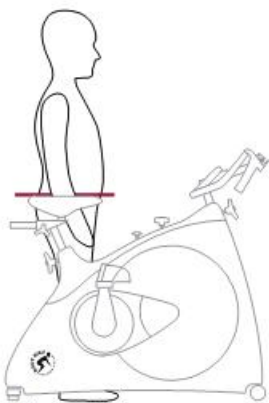

Figure 4
1) Stand next to the cycle and adjust the height of the saddle to the top of the hip, see figure 4.